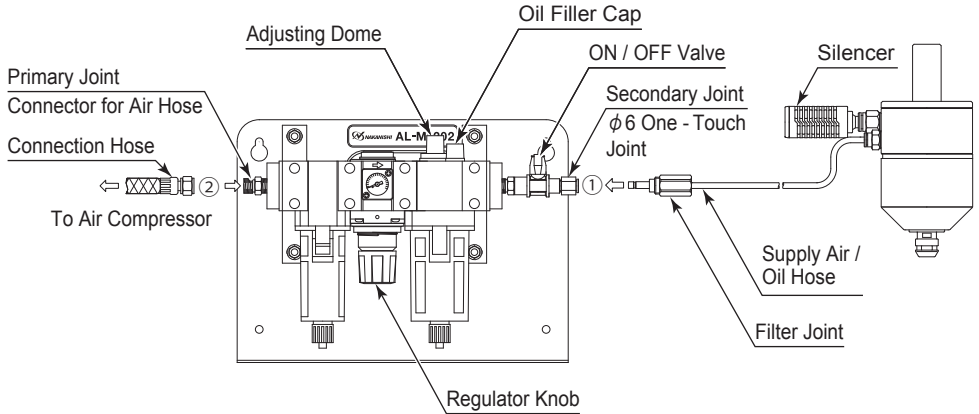

Fig. 7 Connection of Air Line Kit " AL - M1202 (Sold Separately) "
- ① Connect the air hose to the $\phi 6$ One - Touch Joint on the Air Line Kit.
- ② Connect the silencer to the $\phi 8$ One - Touch Joint of the Air Turbine Spindle.
- ③ Connect the Filter Joint of the supply air / oil hose to the Secondary Joint ($\phi 6$ One - Touch Joint) of the Air Line Kit (Fig. 7 ①).
- ④ Fill Oil Reservoir through the Oil Filler Cap with recommended NAKANISHI Lubricating Oil (K - 211 : Air Line Kit's Standard Accessories) to Upper Limit. Disconnect from air supply prior to opening Oil Filler Cap. Do not over or under fill.
- ⑤ Connect the connection hose (Air Line Kit's Standard Accessories) to the Primary Joint of the Air Line Kit and Compressor (Fig. 7 ②).
- ⑥ Supply air from the air compressor and turn the Regulator Knob to set air pressure between 0.3 - 0.5 MPa (43.5 - 72.5psi).
- ⑦ Turn the ON / OFF Valve to ON and rotate the Air Turbine Spindle according to the recommended proper air pressure.